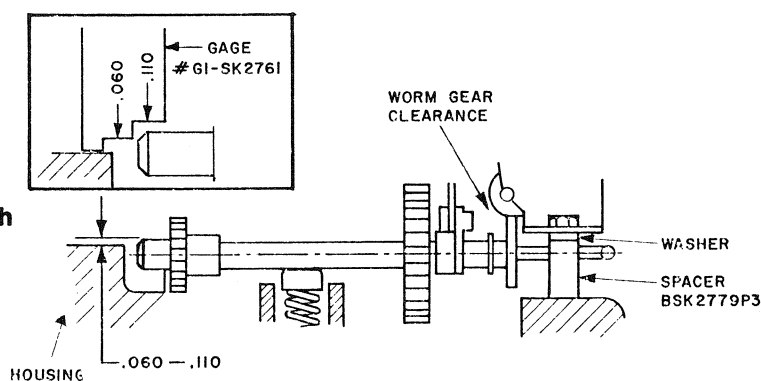

Figure 13. Using Jack Shaft Gauge and Adjustment
2. Rest the end of the Gauge on top of the upper housing boss at the end of the jack shaft (Figure 13).
4. Add or remove washer #41846-P2 as required under the front of the Auto-Focus Mechanism Bracket as shown in Figure 13 to achieve this requirement.